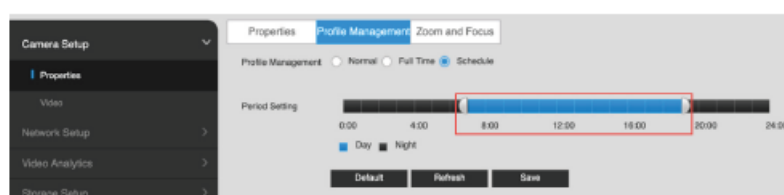

Fig. 3.4
- Use the blue slider bar (Day) to configure the "Period Setting" time covering 7:00 hours to 19:00 hours, see Fig. 3.4. Save your settings.